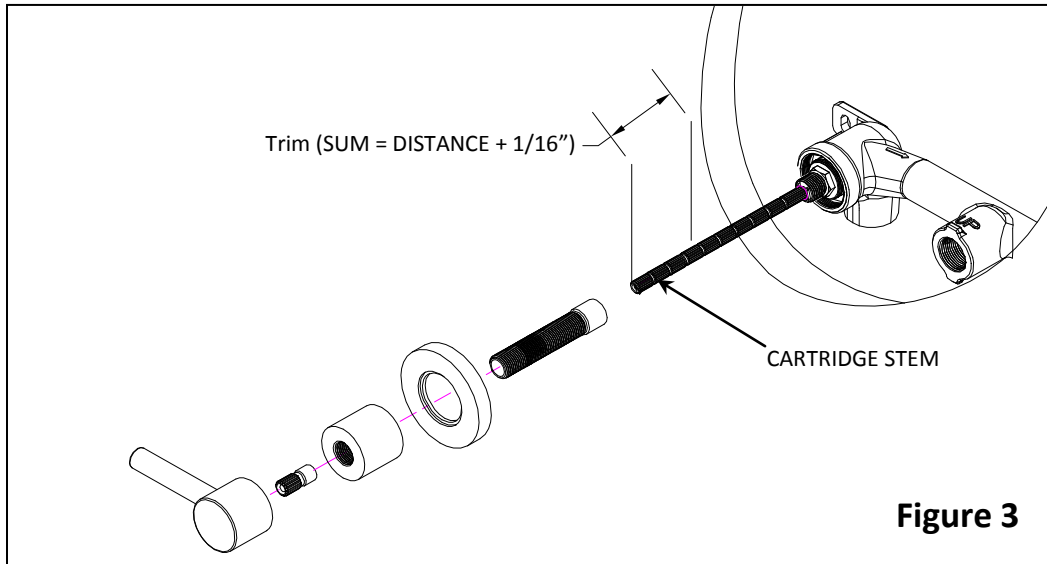

Figure 3
3. **Figure 3**, disassemble HANDLE, ESCUTCHEON/BONNET, BASE RING, ADAPTER SCREW, and CARTRIDGE ADAPTER. Cut the SUM length from the 20 tooth CARTRIDGE STEM (SUM= DISTANCE + 1/16"). **Note:** For some HANDLE styles, where a portion of the HANDLE base is inserted inside ESCUTCHEON/BONNET, additional CARTRIDGE STEM trim is needed to achieve desired aesthetic look.